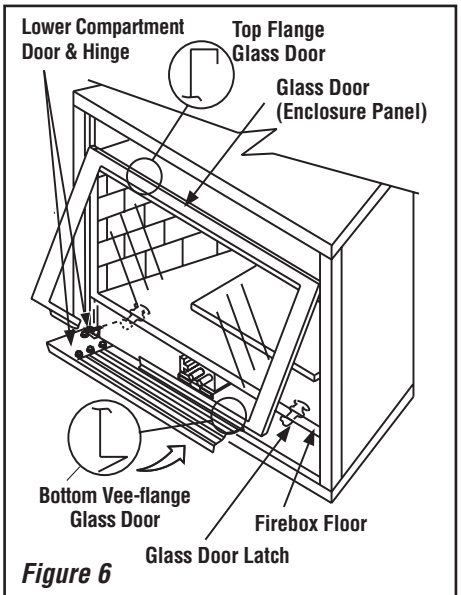

Figure 6
Removing Glass Enclosure Panels (see **Figure 6**)
Installing Glass Enclosure Panels (see **Figure 6**)
2. Position the glass enclosure panel in front of the firebox opening at a 45 degree angle and engage the top flange over the lip at the top of the firebox opening. **See Figure 6**.